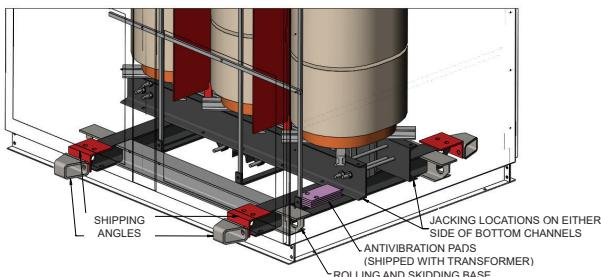

FIGURE 9
1. Do not lift or move a transformer without proper equipment and experienced personnel. Lifting provisions are provided inside of the enclosure on the core/coil only. Always use lifting provisions provided by the manufacturer. **DO NOT LIFT THE TRANSFORMER BY THE ENCLOSURE.** Rolling and skidding are recommended on transformers with a pre-ordered skidding base (see figure 9).
1. It is recommended that anti-vibration pads or other vibration isolation devices be present when installing dry-type transformers. Rubber anti-vibration pads are provided with the transformer and need to be installed on site. When installing the anti-vibration pads beneath transformer base beam, ensure the transformer is lifted by the core & coil only (refer to "Lifting Procedures"). If the enclosure is provided and attached to the core & coil by shipping angles, make sure that the shipping hooks and shipping angles are removed in all locations (see figure 9 and 10) before lifting the transformer by core & coil only to install the anti-vibration pads (or other vibration isolations required per design).